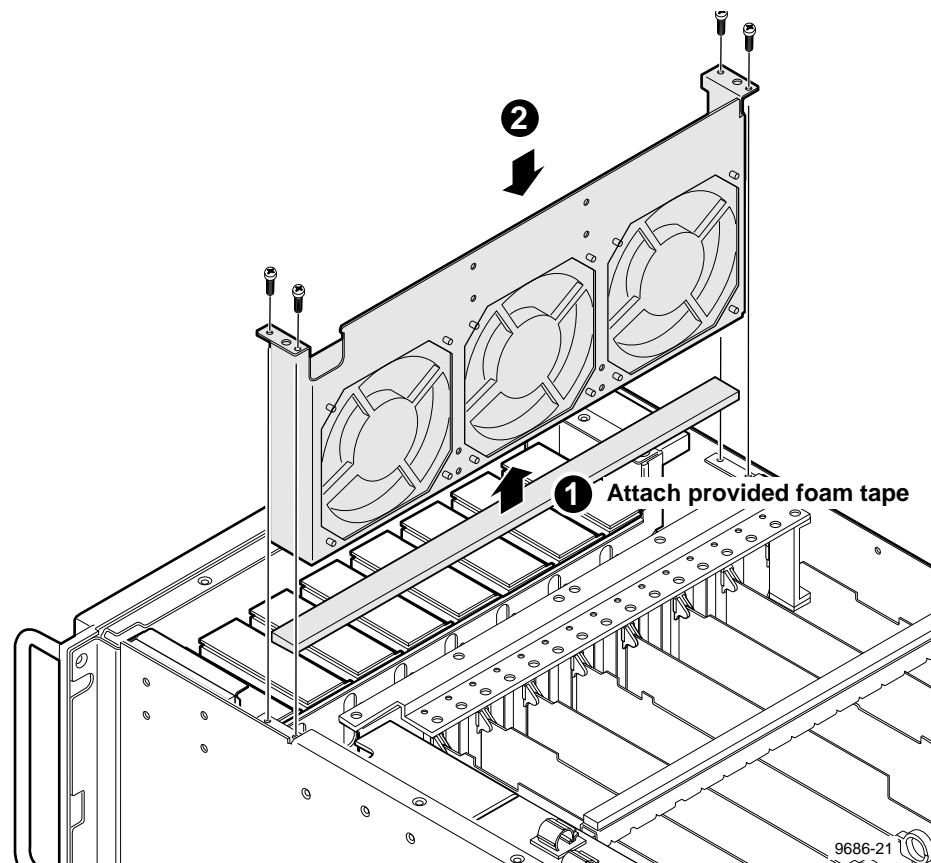

Figure 18. Installing the fan assembly
1. Peel the protective cover off of the provided foam tape and stick the foam tape to the bottom edge of the fan assembly (❶ in Figure 18).
3. Tilt the fan assembly slightly toward the front of the chassis and carefully lower the assembly to the bottom of the chassis (❷ in Figure 18).